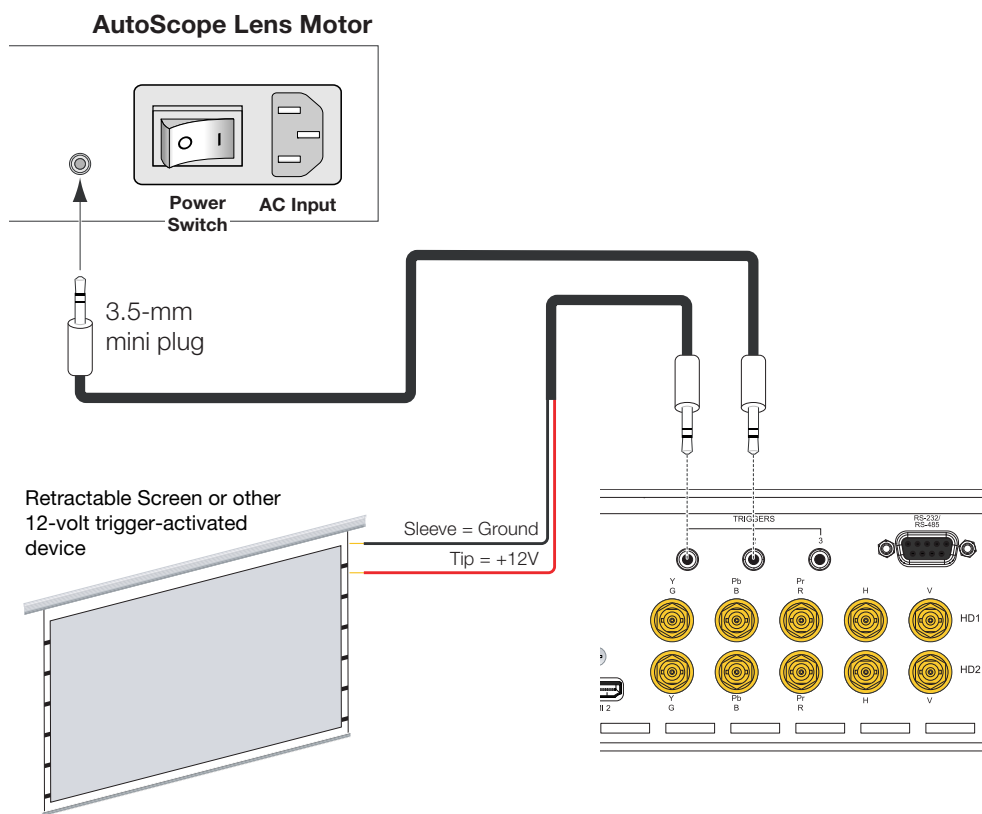

Figure 3-17. 12-volt Trigger Output Connections (from DHD Controller)
DHD Controller: If your VX-6000d is equipped with a CineWide with AutoScope system, connect the AutoScope lens motor to a 12-volt trigger output on the DHD Controller; see Figure 3-17.
- 3. If this is an AutoScope-equipped projector, turn on the main power switch at the rear of the AutoScope lens motor. The lens motor power switch is located next to the AC input (see Figure 3-17).